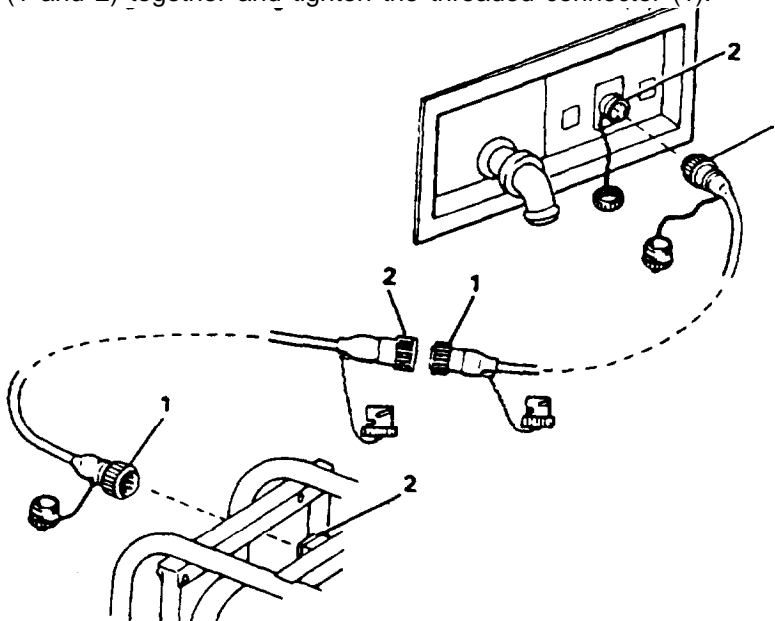

Figure 3-4. Service Raw Water Pump Power Cable
Unscrew the threaded electrical connector (1, Figure 3-4) and separate from connector (2).